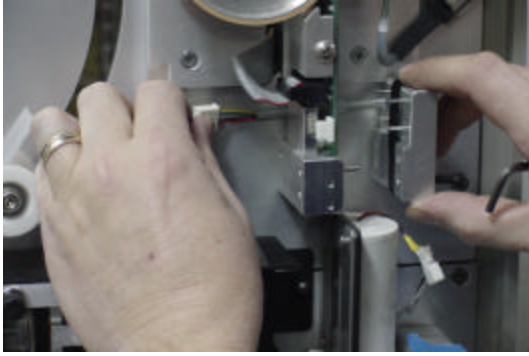

Figure B3
- 6) If going from APS to 35mm format, remove the Perforation Sensor. See Figure B3 and Figure 1.
- 4) If going from a 35mm to APS format, remove the Perforation Sensor Block from the Kit box, and install it on the Pre-Scan sensor. Plug the cable into the header on the Pre-Scan sensor board. See Figure B3. **Warning – do not over tighten the mounting screw.**